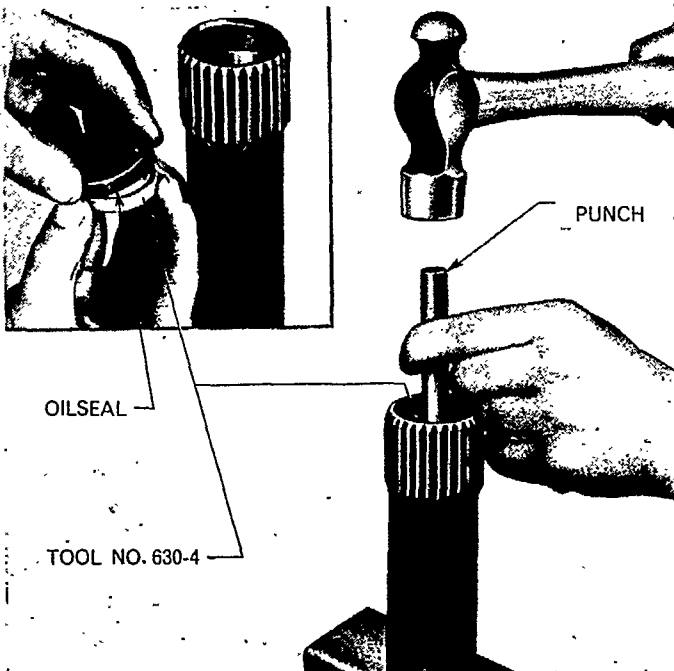

Figure 15
7. When installing a new needle roller bearing, make sure that the manufacturers name, which is stamped on the bearing shell, faces outwards. Use Tool No. 630-3 with a hammer and drift to drive the bearing into the input shaft. Make sure the bearing seats against the shoulder in the bore of the input shaft. Lightly grease the oil seal and locate it on the spigot of Tool No. 630-4. Use a hammer and small punch to drive the seal into position against the shoulder in the shaft, Figure 15.